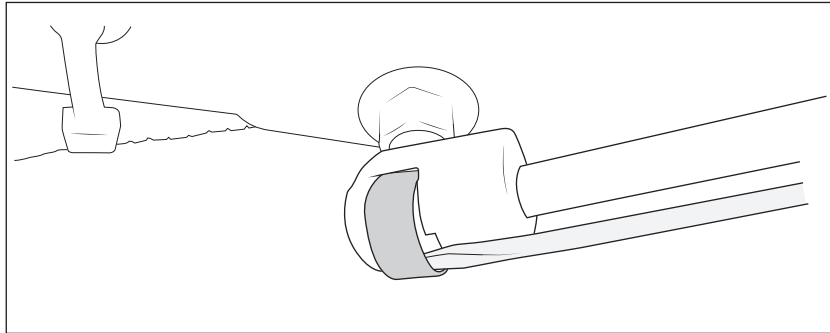

Figure 1
- A. With a helper, remove the hood lift cylinders. Lift the clips on the ends of the cylinders using a small bladed flat screwdriver and pull (fig. 1). CAUTION: Once the cylinders are removed the hood will no longer be supported.